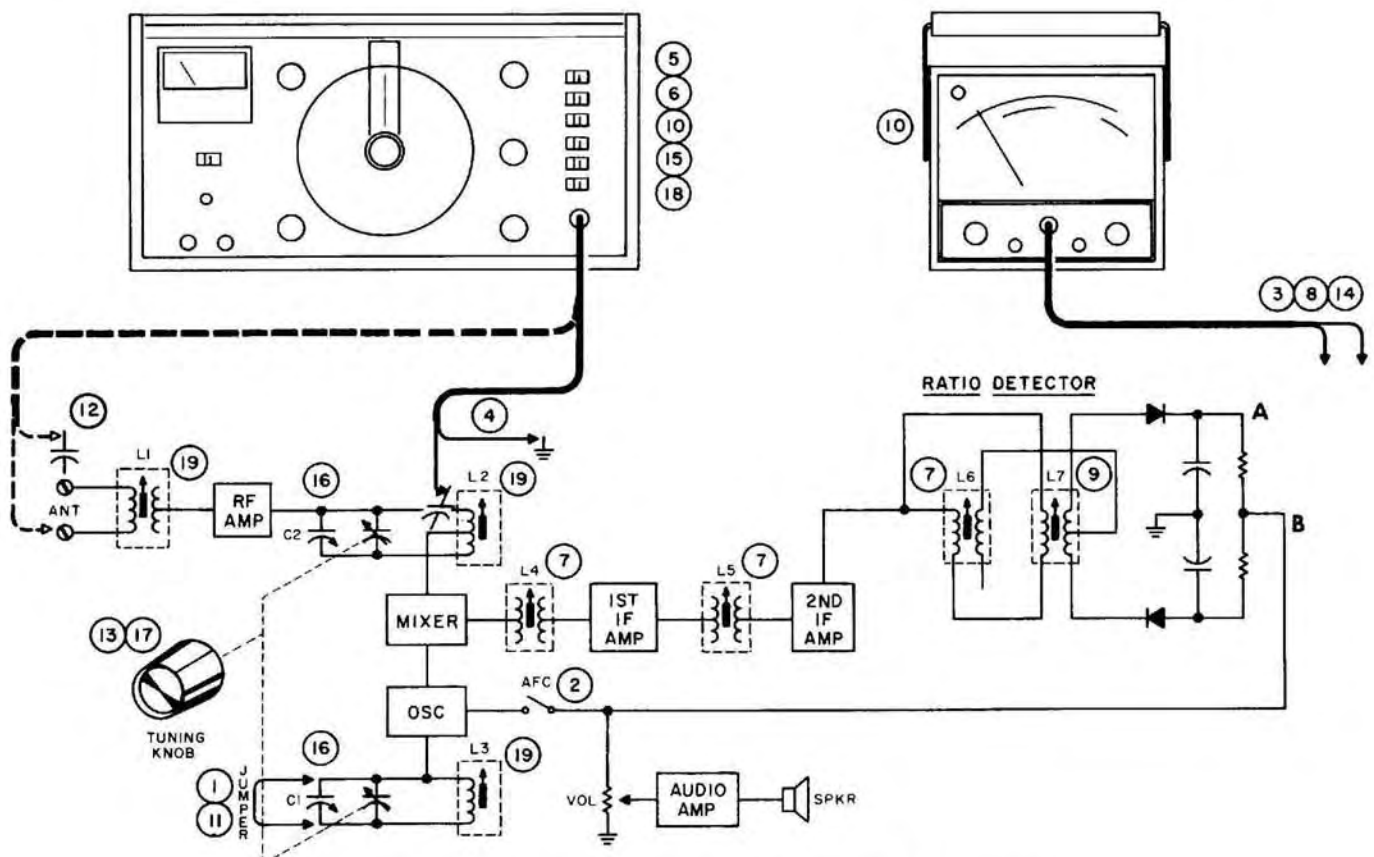

Figure 6. Typical FM Broadcast Band Receiver Adjustment
(Refer to Figure 6)
7. Beginning with the primary coil of the ratio detector (or discriminator) and progressing toward the antenna, align each i-f coil for maximum meter reading on the VTVM (in figure 6, adjust L6, L5, and L4 in that order). Reduce the signal generator output level as required to maintain a small meter reading. **REPEAT THE ADJUSTMENTS UNTIL NO FURTHER IMPROVEMENT CAN BE OBTAINED.**